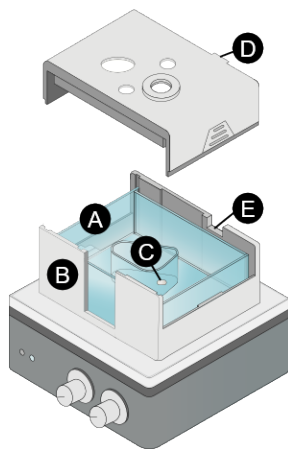

Figure 1. Photosynthesis chamber and lid
1. Slide the transparent tank ① in the base ② as shown in Figure 1. If the tank does not fit, rotate it and try again.
2. Set the system upon the magnetic stirrer as shown. Add the magnetic stir bar to the inner chamber ③.
3. Squeeze both sides of the lid and align the lid tab ④ with the base notch ⑤ to close the chamber.